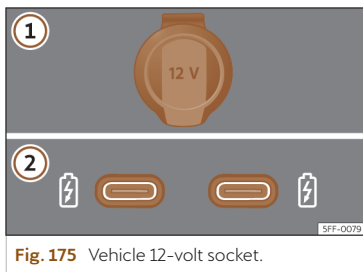

Fig. 175 Vehicle 12-volt socket.
>>> Fig. 175
Depending on the equipment and the country, the vehicle may also have USB connections **exclusively for charging or as a power socket** >>> Fig. 175 ②.